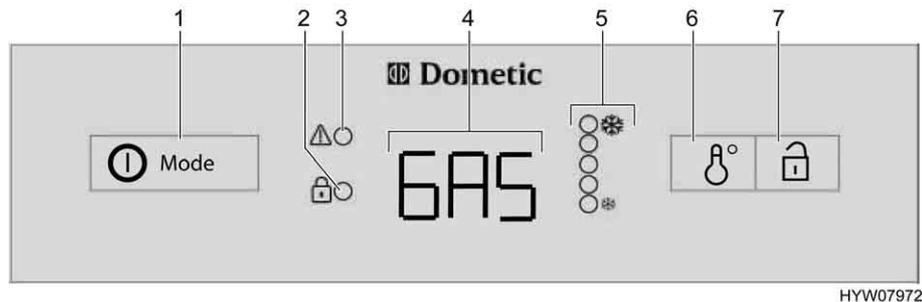

Fig. 153 Operating controls for the refrigerator (Dometic 8 series with AES)
In the case of a fault, the LED display fault will flash "!" (Fig. 153,3).
If the 230 V power supply is **not** connected and the engine of the towing vehicle is **not running** the AES selects the gas supply. When selecting gas operation the ignition fuse is opened automatically so gas can get into the burner. At the same time the electronic ignition is activated. If the gas flame is extinguished, e.g. by blast of wind, the ignition is activated immediately and re-ignites the gas. In the case of a fault in gas operation the text "GAS" flashes in the operating indicator (Fig. 153,4).
When turned on the first time the refrigerator automatically selects the middle thermostat position. This position can be adjusted manually by using the switch for temperature setting (Fig. 153,6). The indicator LEDs (Fig. 153,5) show the selected thermostat position. The refrigerating temperature for the three types of energy is set with the switch. It takes a few hours till the refrigerator reaches its normal operating temperature. When changing over the operating mode the thermostat setting will be maintained. The refrigerating temperature is retained regardless of the type of power being used.
- Press the on/off switch/energy selector switch (Fig. 153,1) down for 2 seconds in order to switch on the appliance. The operating mode selected most recently is shown in the operating indicator (Fig. 153,4).
- Select the energy type with the on/off switch/energy selector switch (Fig. 153,1).
- Set the refrigerating temperature on the switch for temperature setting (Fig. 153,6). The indicator LEDs (Fig. 153,5) show the selected thermostat position.
- Press down the on/off switch/energy selector switch (Fig. 153,1) for 2 seconds. All displays close.